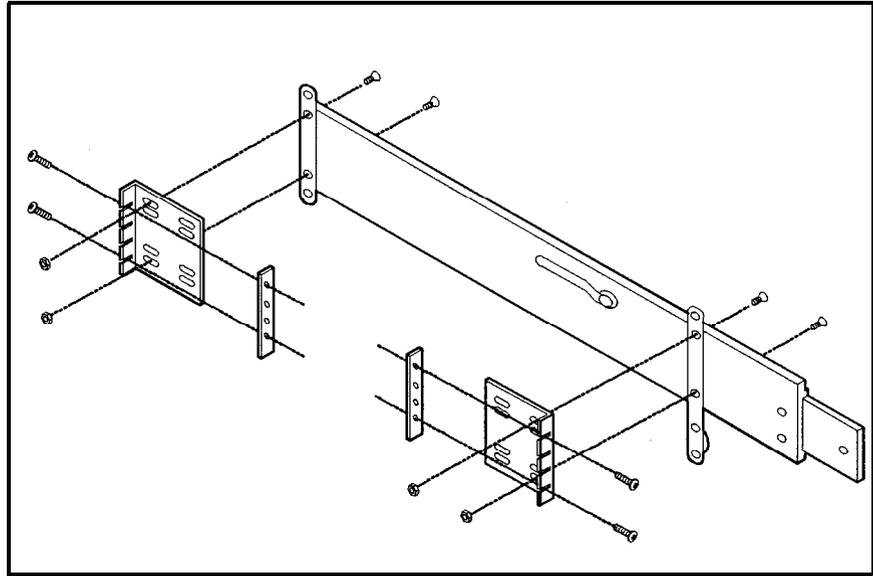

Figure 2-14. Slide Adapter for Non-HP System Rack Cabinets
- Using hole pattern B, see Figure 2-14, attach one adapter bracket to the front of each outer slide mount, using two **M4x0.8x12** flat-head screws and nuts per bracket.